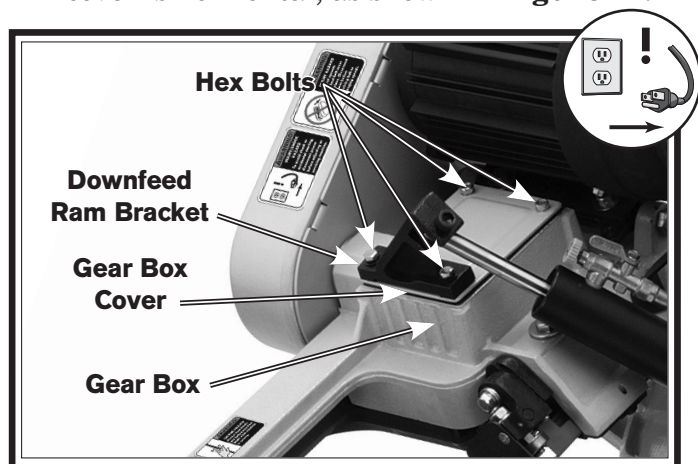

Figure 44. Gear box location.
3. With the help of another person, carefully remove the saw from the stand and place it on a workbench. Use wooden blocks to support the machine so that the gearbox cover is horizontal, as shown in **Figure 44**.